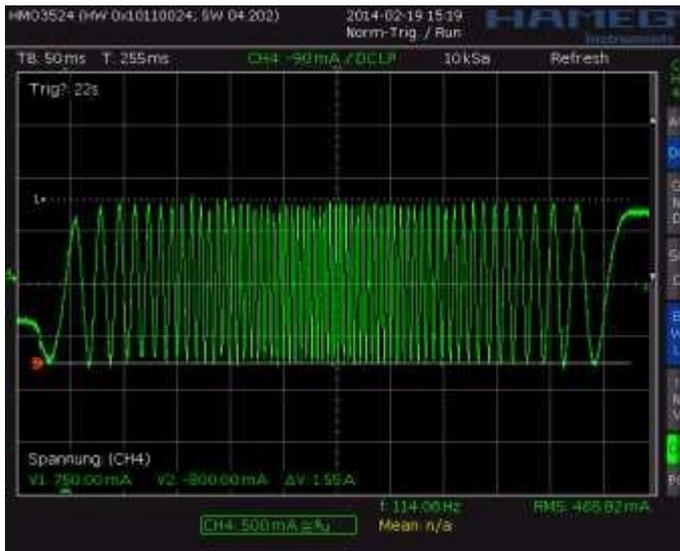
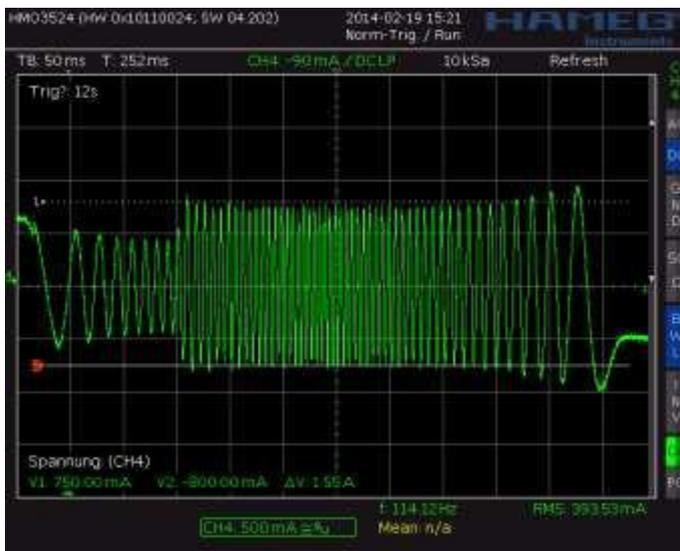
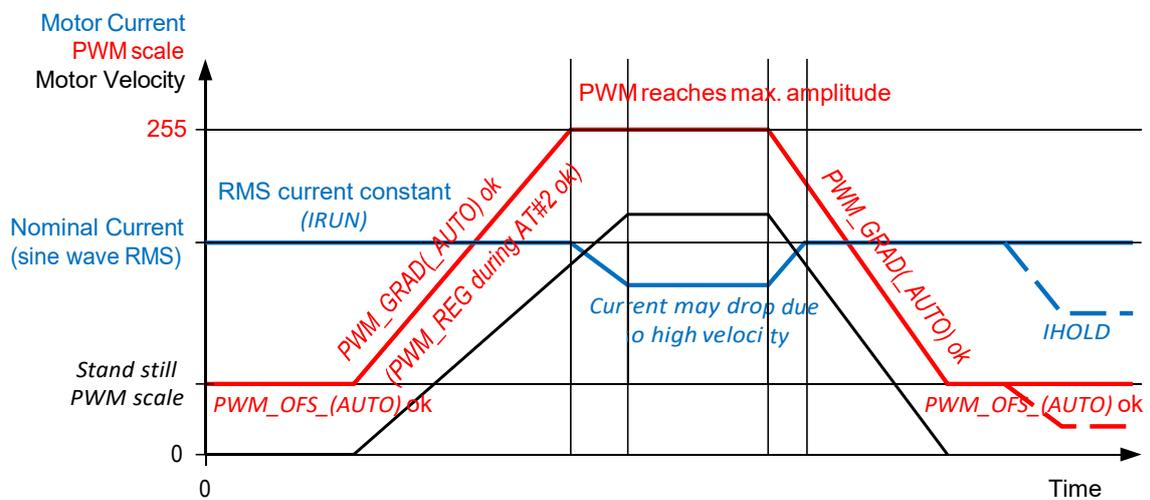

Figure 6.3 Scope shot: good setting for PWM\_REG
Figure 6.4 Scope shot: too small setting for PWM\_REG during AT#2
Figure 6.5 Successfully determined PWM\_GRAD(\_AUTO) and PWM\_OFS(\_AUTO)
In StealthChop voltage PWM mode, the autoscaling function ( $pwm\_autoscale = 1$ ,  $pwm\_autograd = 1$ ) regulates the motor current to the desired current setting. Automatic scaling is used as part of the automatic tuning process (AT), and for subsequent tracking of changes within the motor parameters. The driver measures the motor current during the chopper on time and uses a proportional regulator to regulate  $PWM\_SCALE\_AUTO$  in order match the motor current to the target current.  $PWM\_REG$  is the proportionality coefficient for this regulator. Basically, the proportionality coefficient should be as small as possible in order to get a stable and soft regulation behavior, but it must be large enough to allow the driver to quickly react to changes caused by variation of the motor target current (e.g. change of  $VREF$ ). During initial tuning step AT#2,  $PWM\_REG$  also compensates for the change of motor velocity. Therefore, a high acceleration during AT#2 will require a higher setting of  $PWM\_REG$ . With careful selection of homing velocity and acceleration, a minimum setting of the regulation gradient often is sufficient ( $PWM\_REG=1$ ).  $PWM\_REG$  setting should be optimized for the fastest required acceleration and deceleration ramp (compare Figure 6.3 and Figure 6.4). The quality of the setting  $PWM\_REG$  in phase AT#2 and the finished automatic tuning procedure (or non-automatic settings for  $PWM\_OFS$  and  $PWM\_GRAD$ ) can be examined when monitoring motor current during an acceleration phase Figure 6.5.